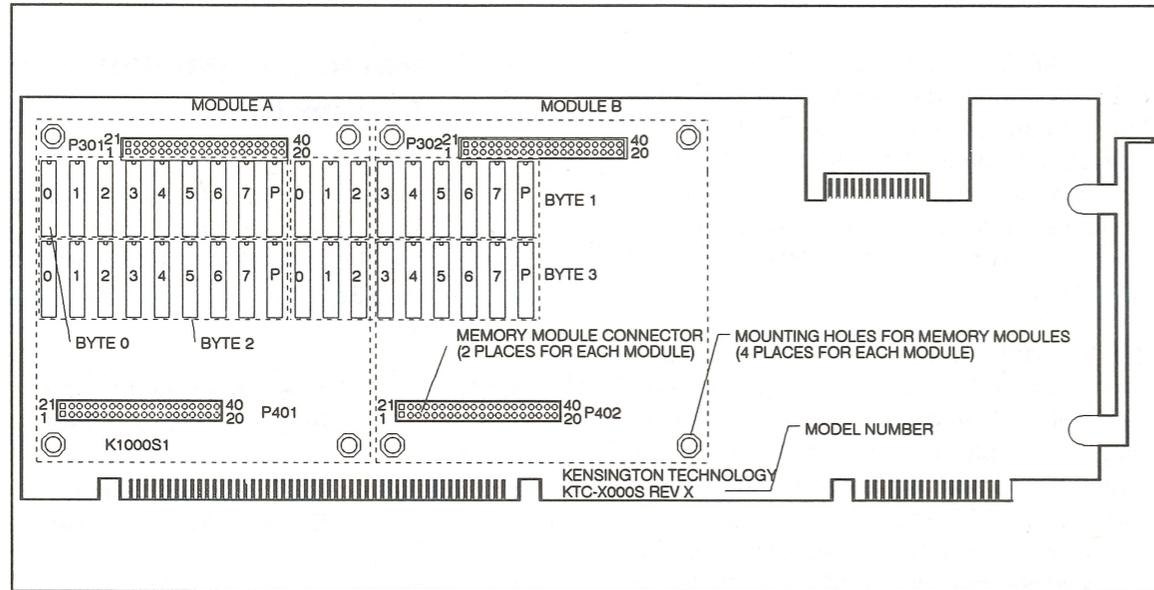
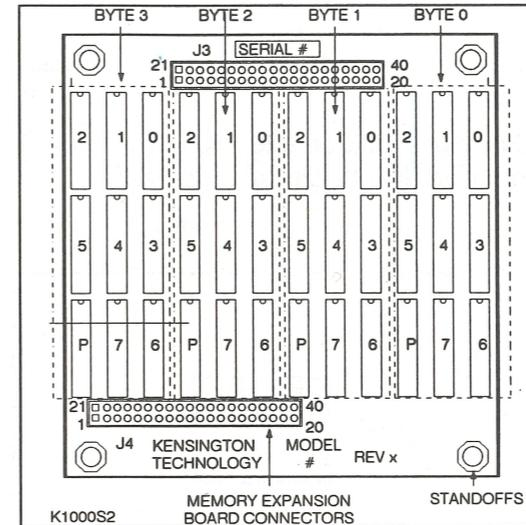
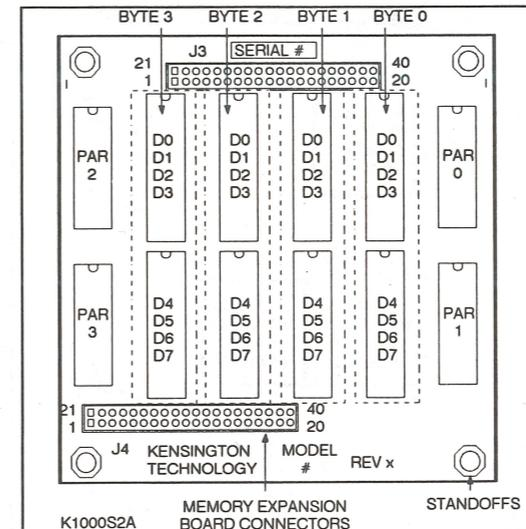

Figure 1: Components on the KTC-1000s and KTC-4000s Expansion Memory Boards
Figure 2: Components on the 4MB KTC-4200 Add-on Module
Figure 3: Components on the 1MB KTC-1100 Add-on Module
Figure 1 shows the major components of the KTC-1000s and KTC-4000s expansion memory boards. Figure 2 and Figure 3 show the major components on the 4MB KTC-4200 and KTC-1100 add-on memory
**YY =** Specifies one of four bytes of the XX memory board. The KTC bytes are labeled on Figure 1.